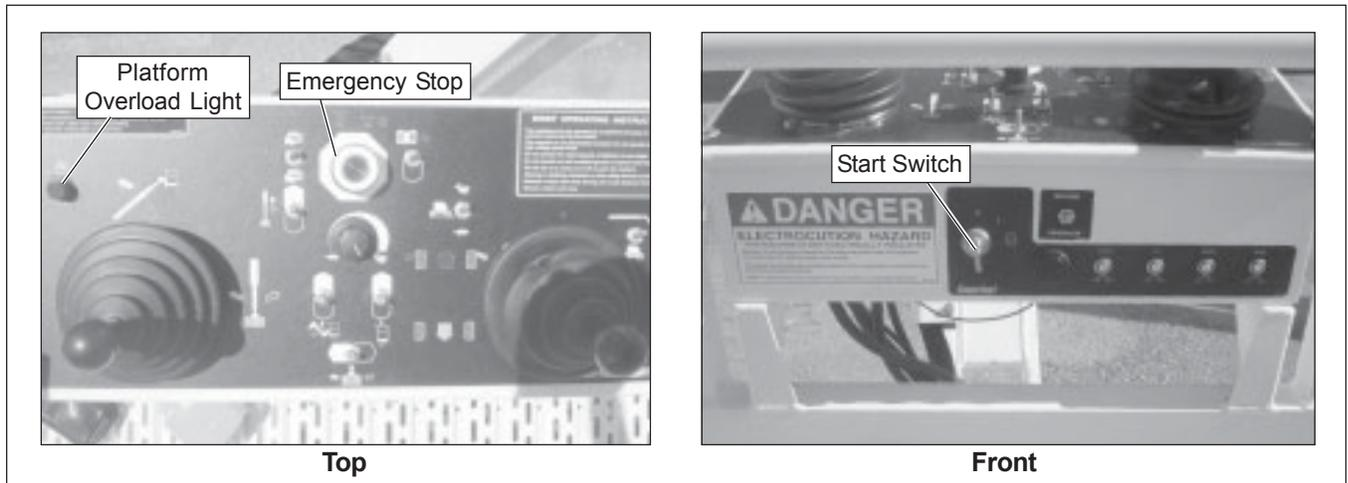

Figure 8.3 – Upper Controls
4. Pull the emergency stop outward (refer to Figure 8.3).
Boom and drive functions are stopped when the platform load reaches or exceeds rated capacity. The horn will sound intermittently and the red light (refer to Figure 8.3) will illuminate when the platform rated work load is exceeded.